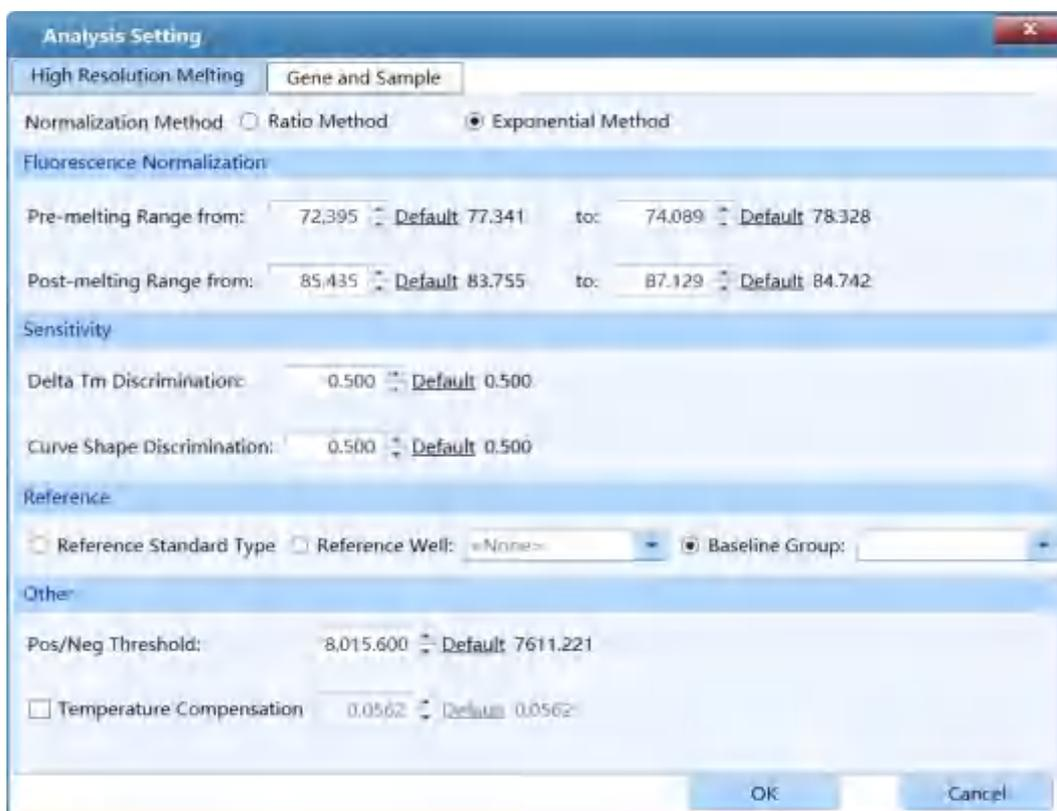

Figure D-14. High Resolution Melting Analysis Setting interface - High Resolution Melting tab
- I. **High Resolution Melting** tab: user can set the **Normalization Method, Fluorescence Normalization, Sensitivity, Reference** and **Other** parameters for the current analytical method as shown in figure D-14.